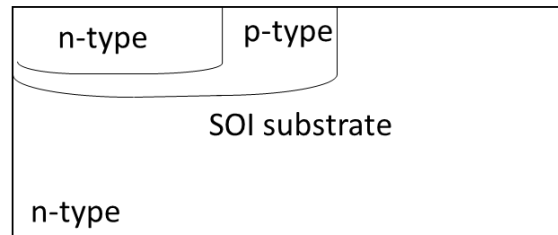

Figure 2: Schematic cross-section of a BJT on SOI substrate.
The silicon-based silicon-on-insulator-bipolar junction transistor (SOI-BJT) technology is a promising candidate for realizing future Radio Frequency System-on-Chip (RFSoc) applications. A schematic cross-section of a BJT on SOI substrate is given in Figure 2.
- (a) Design a photolithography fabrication process flow for the SOI-BJT given in Figure 2. Illustrate each processing step, starting from the N-type silicon wafer. How many masking levels are involved in the fabrication process of the SOI-BJT? [12+2 marks]
- (b) Photoresists (PR) are polymeric materials that transfer micro or nanostructured patterns to a substrate through a radiation-induced solubility change. Compliment the performances of the positive PR and negative PR given in Table 2(b). [4 marks]
- (c) Photolithographic patterning process is deployed in the device processing for SOI-BJT in Figure 2 using contact printing approach with exposure wavelength of 247 nm. If the photoresist thickness is 1.2 μm and the photoresist constant, k , is given as 0.68, determine the minimum feature size, W_{\min} , that can be achieved using the contact printer. [2 marks]
- (d) Design an etching solution for the device patterning for the SOI-BJT given in Figure 2, based on the best resolution achievable by deploying the contact printer described in Question 2(c). Describe the distinctive performances of your proposed etching solution. [4 marks]
- (e) Propose a solution to functionalize the SOI-BJT given in Figure 2. Describe the formation process for the proposed solution. [6 marks]
- (a) In your design for SOI-BJT given in Figure 2, propose a doping technique for the SOI-BJT n-well and p-well structures, which prioritizes the costing and simplicity of the equipment setup. Describe the limitation for proposed doping scheme, and design an implementation strategy that can effectively accomplish the n-well and p-well in a timely manner through this proposed doping technique.
- (b) In your design in Figure 2, in order to form the p-well, boron is diffused into the n-type silicon (Si) wafer with a background doping concentration of $1.5 \times 10^{17} \text{ cm}^{-3}$. The diffusion process is performed at 1050°C for 50 minutes and the boron concentration at the surface is held at $1.5 \times 10^{19} \text{ cm}^{-3}$. The diffusion coefficient for boron at 1050°C is given by $1.5 \times 10^{-15} \text{ cm}^2\text{s}^{-1}$. Calculate the junction depth of the p-well in the SOI-BJT following the boron diffusion process. Is this pre-deposition diffusion or drive-in diffusion?